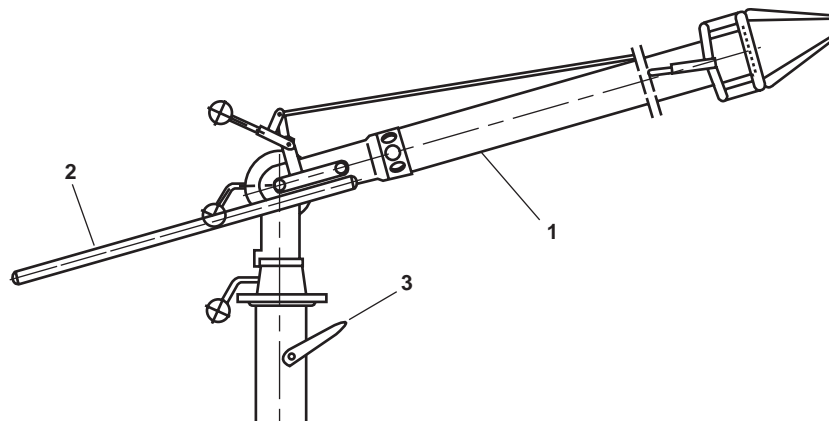

Figure 1. Fire Monitor Testing
1. At each fire monitor (figure 1, item 1), direct the fire monitor to place water away from the vessel using the directional control handle (figure 1, item 2).
2. OPEN the cutoff valve (figure 1, item 3).
3. Verify that the fire monitor (figure 1, item 1) operates without leaks.
4. CLOSE the cutoff valve (figure 1, item 3) and repeat steps 1-4 for the remaining fire monitors (figure 1, item 1).